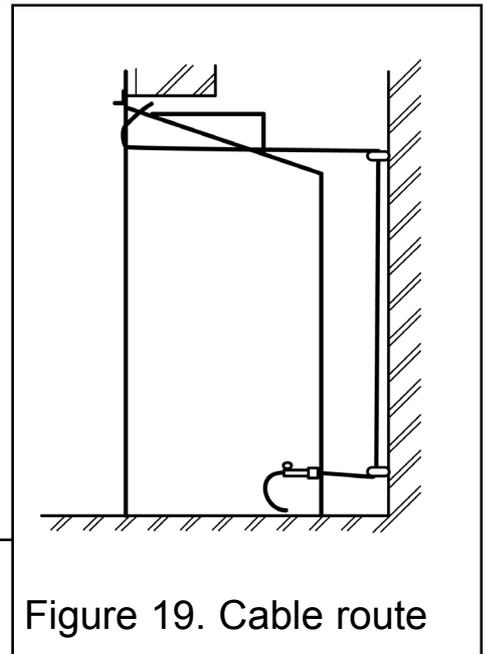

Figure 19. Cable route
6. Thread the cables through the eyebolts. Return the cables through the holes near the bottom of the hotbox back panel - See figure 19 (**For precast or clay block flue systems return the cables through the slotted holes in the side of the hotbox**).